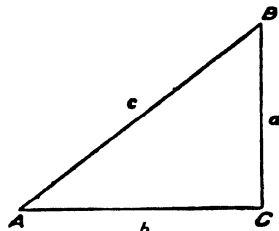

Fig. 3.
5. When in Art. 13 to Art. 17 we take up the solution of right triangles, we shall use a triangle lettered as in Fig. 3. A and B are the acute angles, C the right angle, and the opposite sides are represented by the corresponding small letters. That is, the side opposite angle A is a , that opposite B is b , etc.
12. Since $\sin A = \frac{a}{c}$ and $\csc A = \frac{c}{a}$: (Fig. 3)